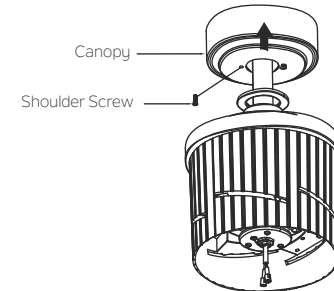

Fig. 16
**Step 2.** Assemble canopy by rotating key slot in canopy over shoulder screw in mounting bracket. Reinstall the shoulder screw that was previously removed, then retighten two shoulder screws securely. (Fig.16)